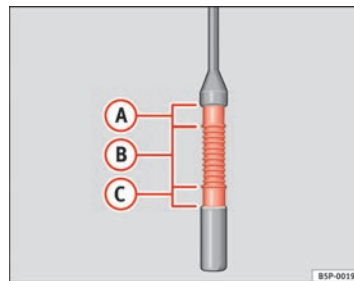

Fig. 158 Engine oil dipstick.
- Then pull it out once more and check the oil level ⇒ page 217, fig. 158. Top up with engine oil if necessary.